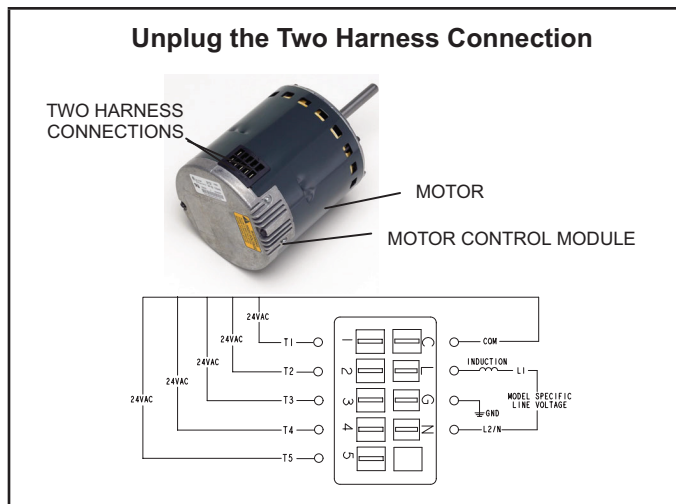

FIGURE 9
- 3 - Unplug the two harnesses from the motor control module. See FIGURE 9.